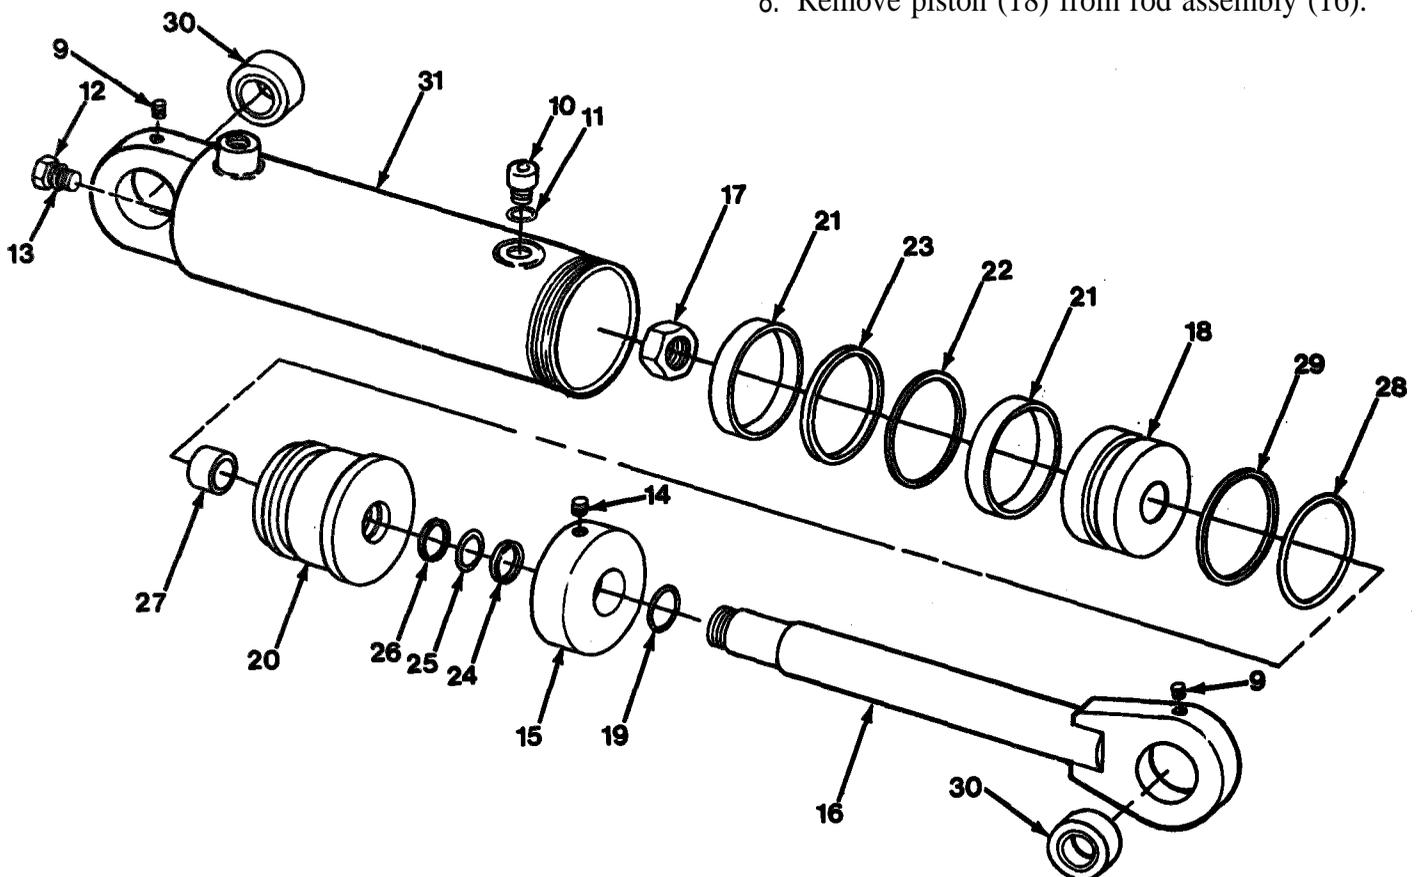

Figure 13-2
9. Remove O-ring (19) from rod assembly (16, Figure 13-2).
10. Remove sleeve (20) from rod assembly (16).
11. Remove cap (15) from rod assembly (16).
12. Remove two wear rings (21), piston seal (22) and load ring (23).
13. Remove rod wiper (24), back-up ring (25), O-ring (26), sleeve wear ring (27), O-ring (28) and back-up ring (29) from sleeve (20).